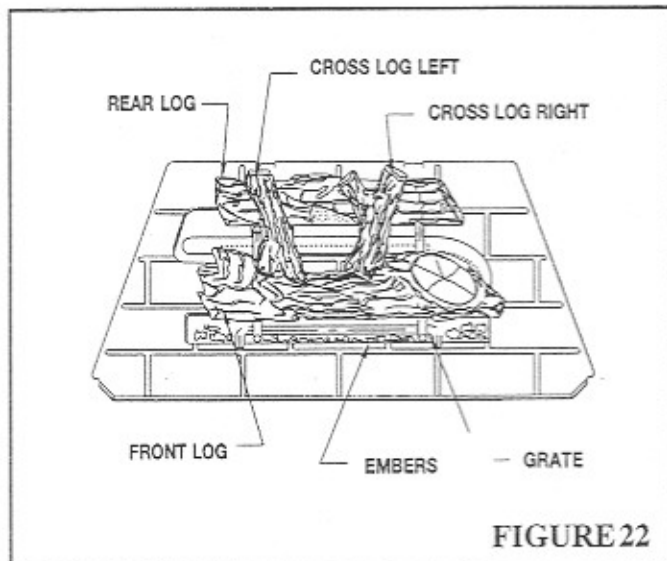

FIGURE 22
**STEP 5:** Place the glowing embers evenly along the edge of the burner tube in front of the front log, covering the flame holes. Refer to Figure 22.